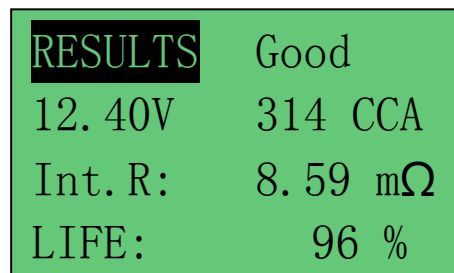

Figure 67
4. Press  key will proceed to display the last test results depending the type of test you had performed earlier. (Fig. 67)